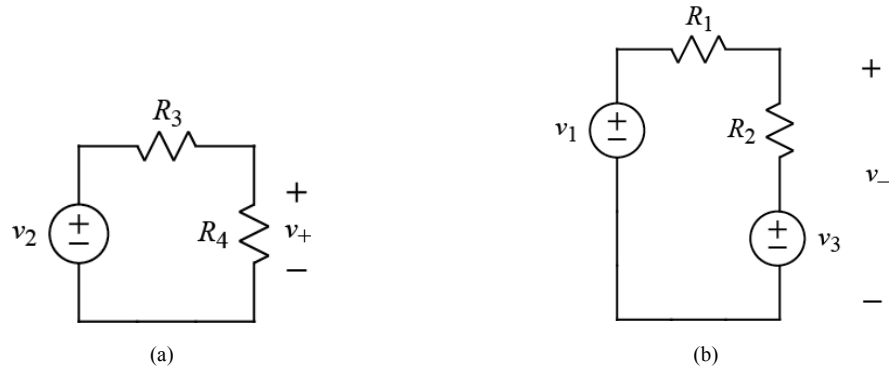

Figure 9. Sub circuits for analyzing differential amplifier: (a)  $v_+$  value, (b)  $v_-$  value.
- 1) Use the circuit model in Fig. 9(a) and the voltage-divider formula to find voltage drop  $v_+$  across  $R_4$ .
- 2) Use the circuit model in Fig. 9(b) and Kirchhoff's and Ohm's law to find voltage drop  $v_-$  across  $R_2$  and  $v_3$ . In other words,  $v_-$  is the sum of the voltage drops across  $R_2$  and  $v_3$ .